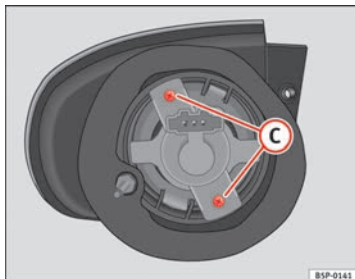

Fig. 191 Turn signal
- Unscrew the bolts ⇒ Fig. 191 **C** from the bulb holder and pull on this.
- Unscrew the bolts ⇒ Fig. 191 C from the bulb holder and pull on this.